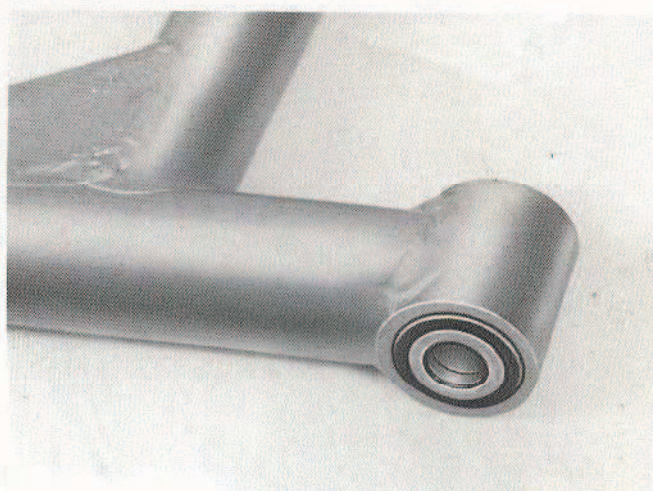

Fig 49.1
5. Mount the sleeve and the two O-rings. See fig. 49.1.